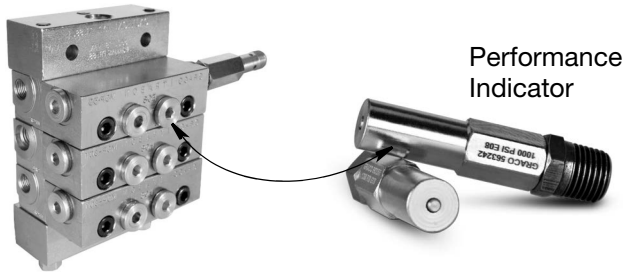

FIG. 7
5. Install performance indicators in ports (FIG. 7):